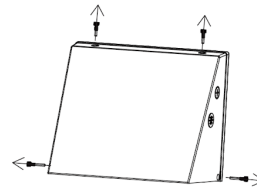

Fig. 2.1
1. Loosen and remove the 4 screws on the top and sides of the luminaire (Fig. 2.1).